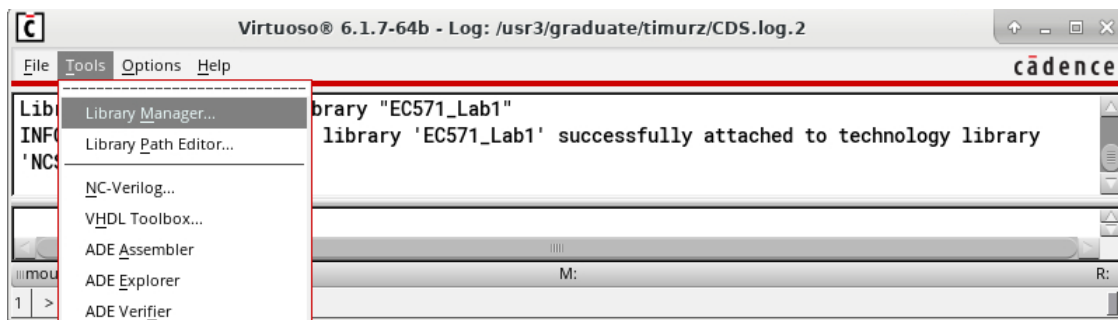
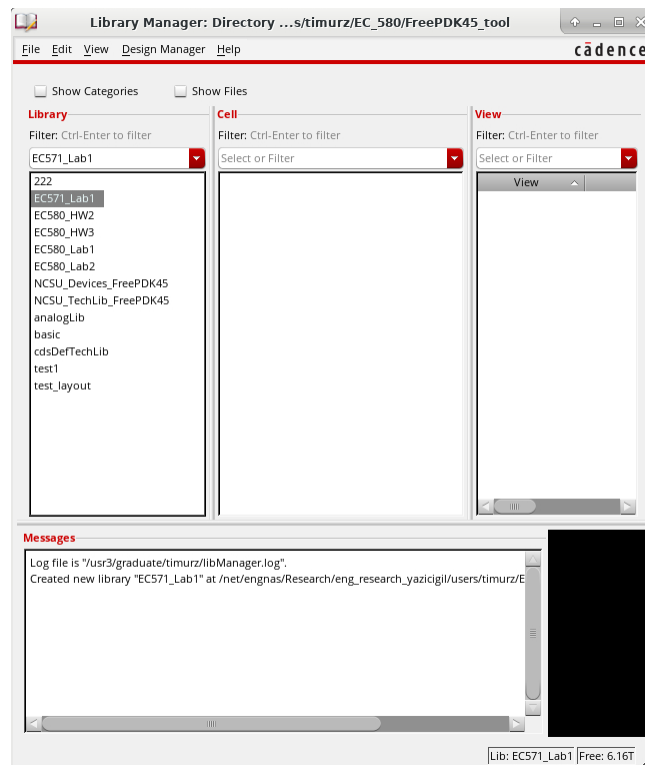

Figure 5: Opening “Library Manager”
Figure 6: “Library Manager” window
3. To access existing libraries: click Tools → Library Manager (Figure 5). “Library Manager” will open (Figure 6).